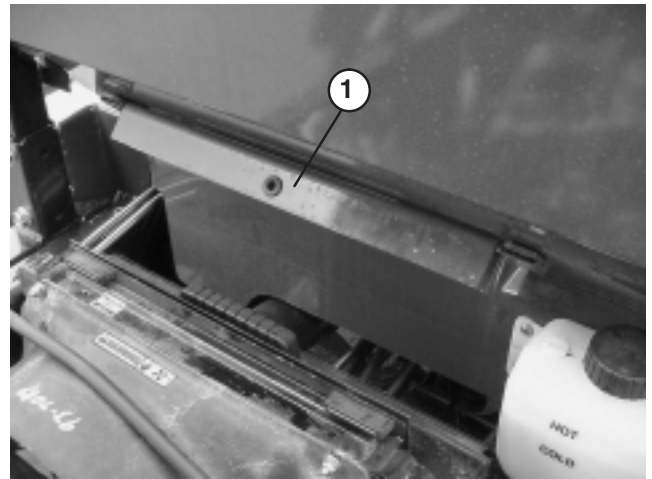

Figure 24
USING BED SAFETY SUPPORT (Fig. 24 & 25)
2. Remove bed support from storage brackets on back of ROPS panel (Fig. 24).